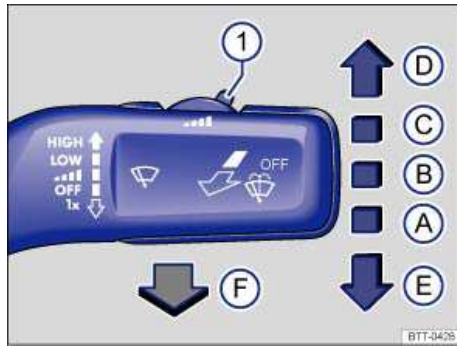

Fig. 92 Operating the front windshield wiper.
- ☐ Press the windshield wiper lever down briefly ⇒ fig. 92 \(E\) when the ignition is off.
Carefully fold the wiper arms back onto the windshield before driving! Switch the ignition on and press the windshield wiper lever down briefly ⇒ fig. 92 \(E\). The wiper arms move back to their original position.